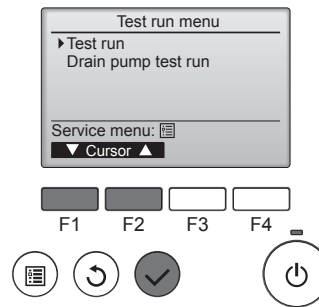

Fig. 5-4
- ④ Select "Test run" with the **[F1]** or **[F2]** button, and press the button. (Fig. 5-4)